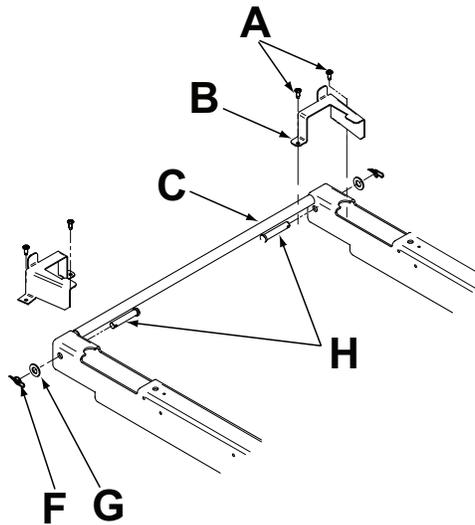

Figure 56 – Wire cover
4. Using a #2 Phillips screwdriver, remove the two screws (A) that secure the wire cover (B) to the upper frame (C) (Figure 56). Save the screws.
7. Using needle nose pliers, remove the rue clip (F) and the flat washer (G) (Figure 56). Save the rue clip and flat washer.
8. Using one hand, grab the upper frame cross bar to remove tension on the litter then push the clevis pin out (H) (Figure 56).